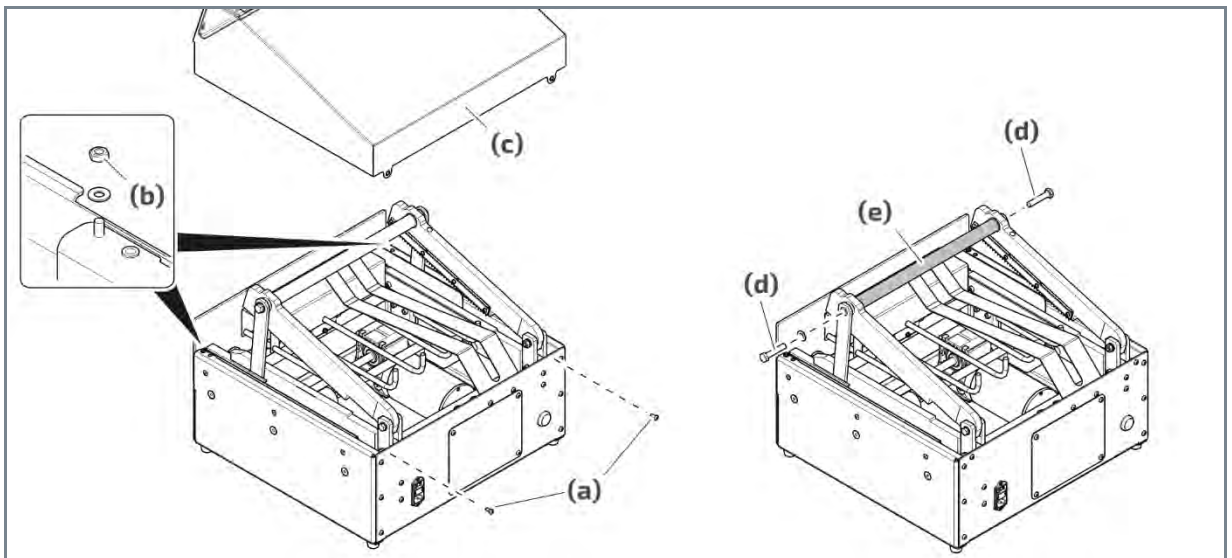

Fig. 7 Removal of jammed product
2. Remove the two M5 hexagon socket screws **Fig. 7 (a)** on the back of the machine.
3. Open the drawer and remove the two M4 hexagon nuts incl. washers **Fig. 7 (b)**.
4. Remove the housing cover **Fig. 7 (c)**.
5. Loosen the two M10 hexagon head screws **Fig. 7 (d)** on the cross bar **Fig. 7 (e)**.
6. Loosen the clamping mechanism to remove the jammed product. If necessary, remove the M10 hexagon head screws to remove the cross bar **Fig. 7 (e)**.